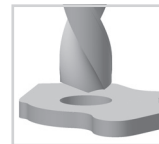

fig. 27
- 2 Bore and ream the hole until it has reached the desired dimension (fig. 27 and 28).